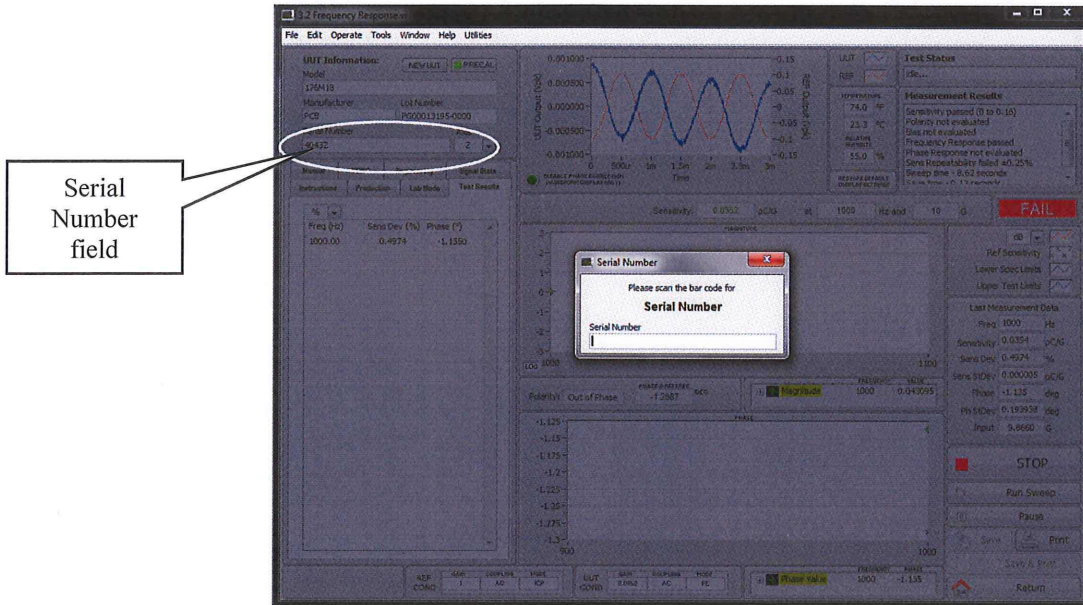

Figure 12
- 10) **Reference** Figure 12.